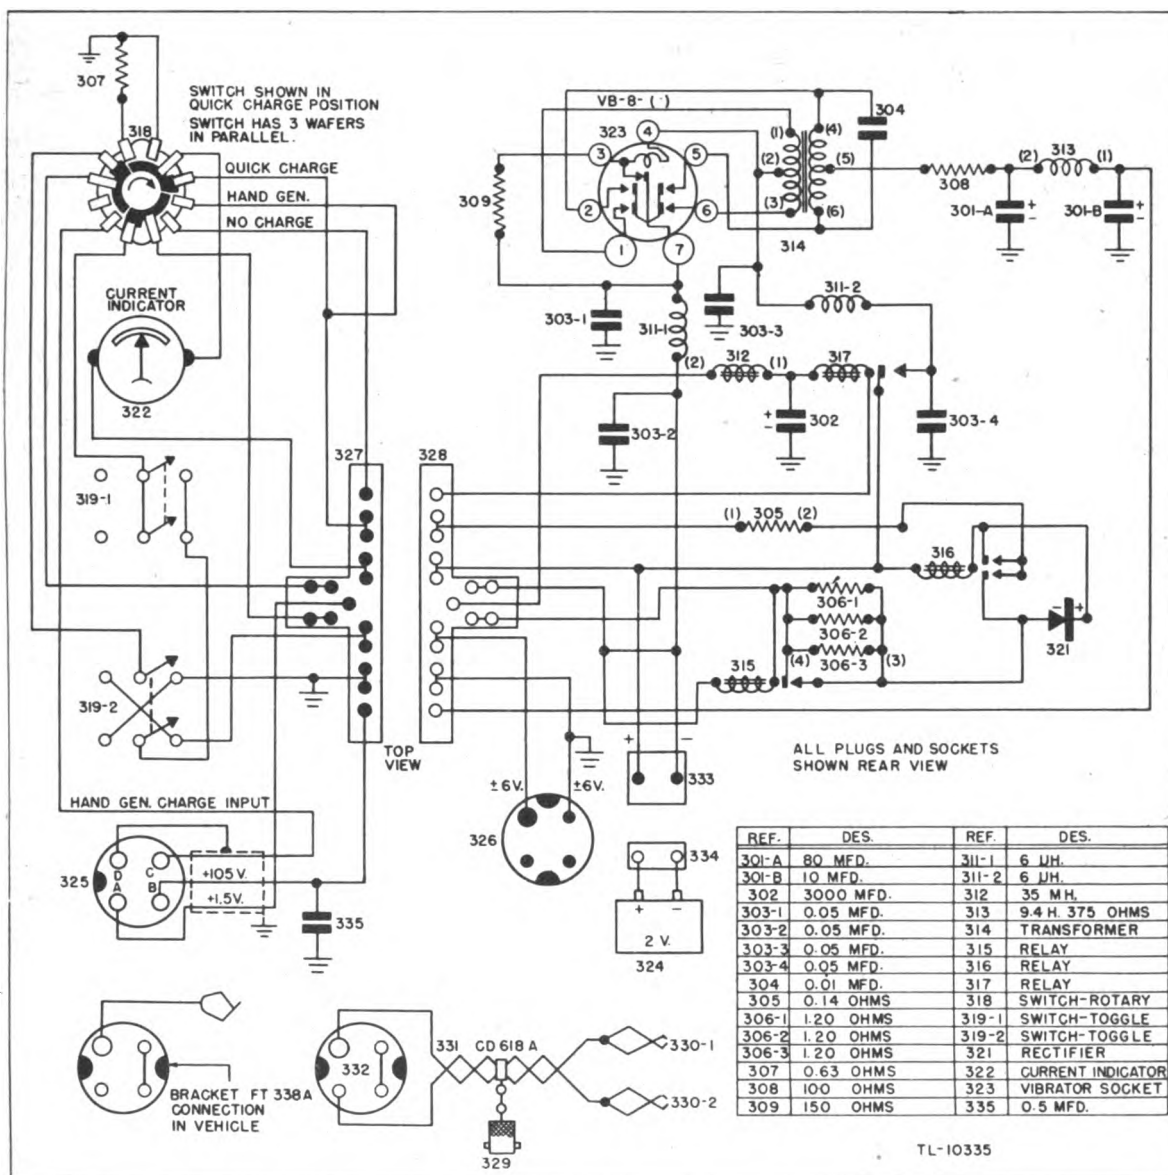
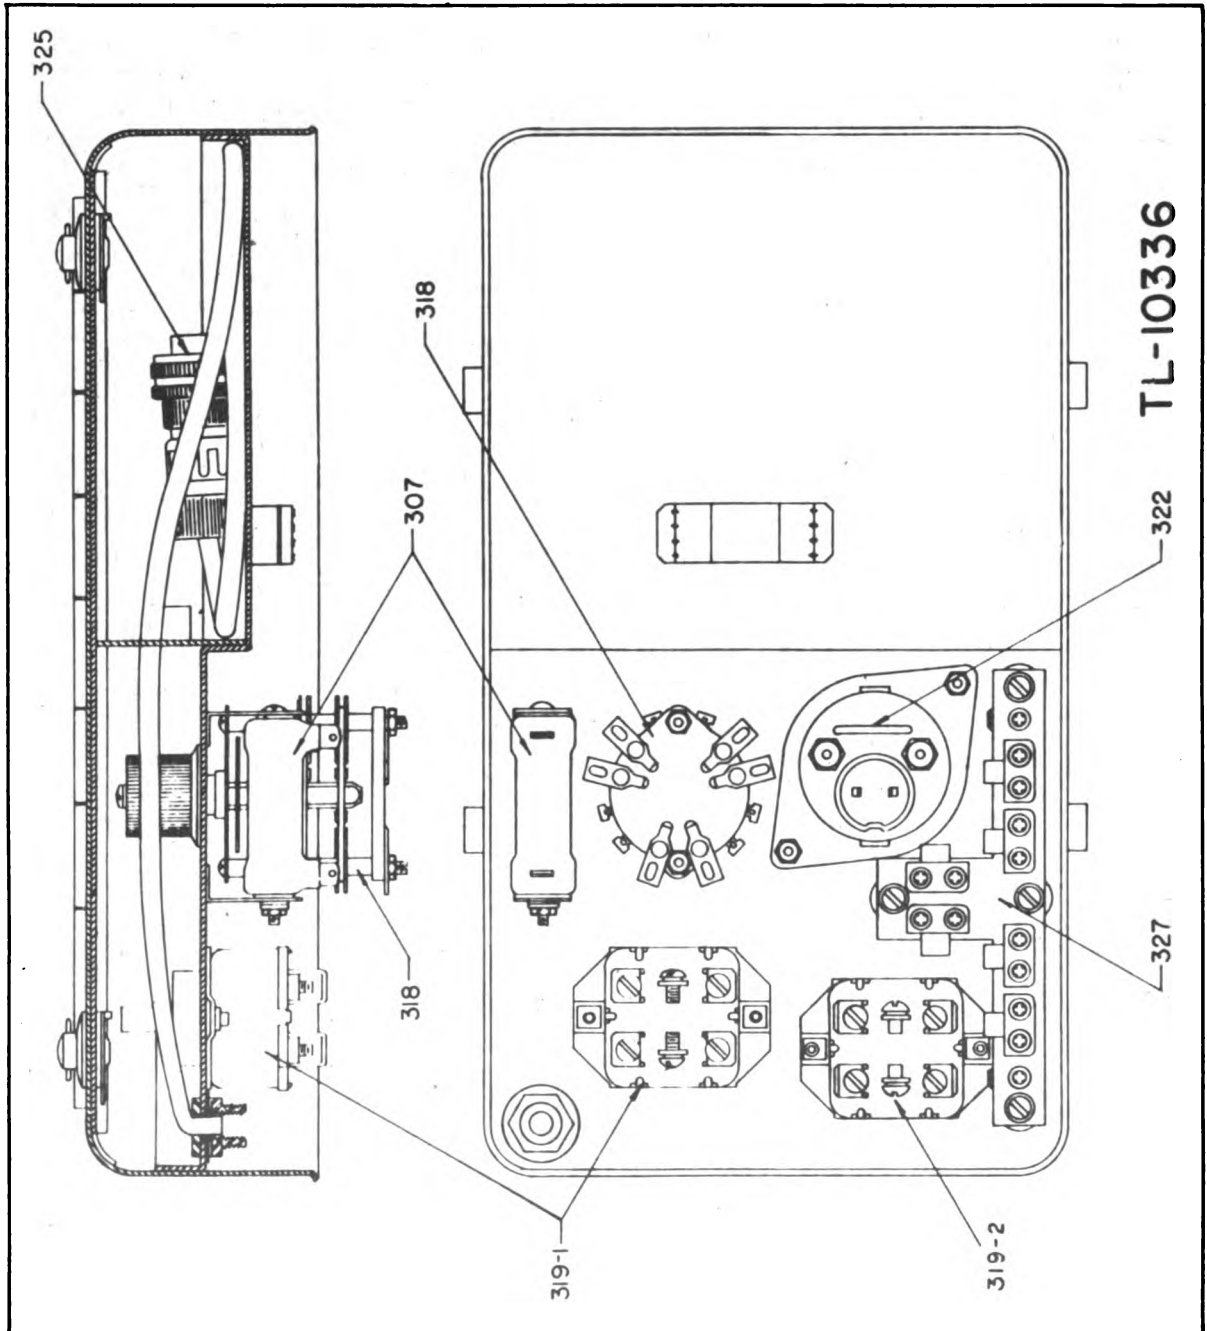

Figure 44—Circuit of Vibrator Power Supply PP-39/TRC-2
Figure 45—Circuit Symbols—Vibrator Power Supply
a. Vibrator Power Supply PP-39/TRC-2 (Figs. 44 and 45) can be divided into three principal parts:
(1) Storage battery, which furnishes power to the vibrator power supply proper, and to the tube filaments in the receiver.
(2) Charging circuit, through which the storage battery is charged from an external source.
(3) Vibrator power supply proper, which furnishes plate power to the receiver (Fig. 45).